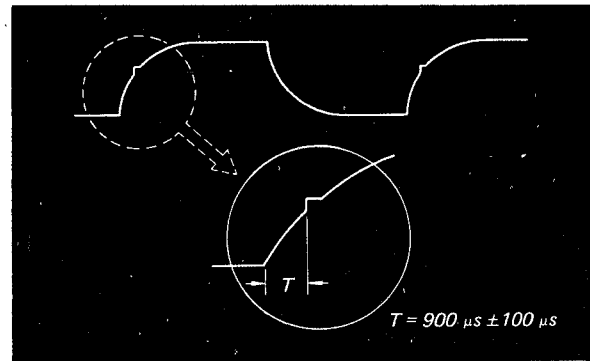

Fig. 7-3. TP-105 waveform
2. Adjust R141 so that the interval of the gate pulse is 900 μ s \pm 100 μ s. See Fig. 7-3.